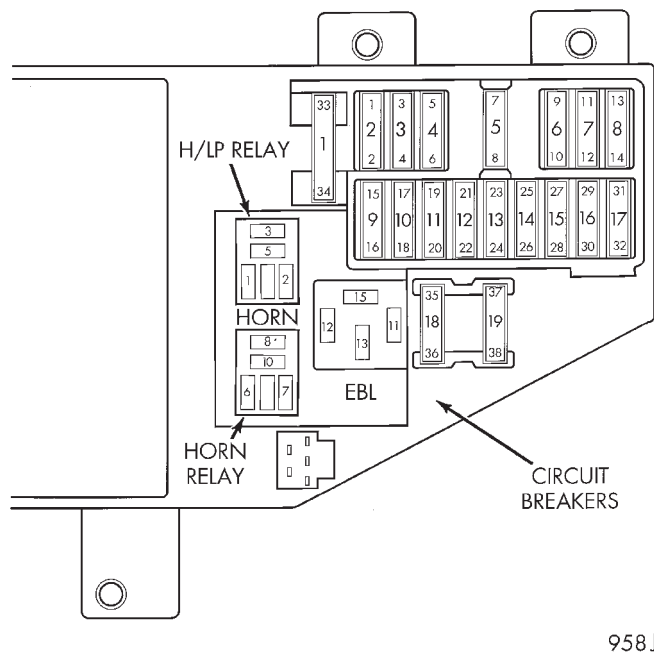

Fig. 3 Horn Relay Location
- (1) Remove horn relay from the Junction Block (Fig. 3).
- (2) Using ohmmeter, test between the Junction Block relay terminal 7 and ground for continuity.